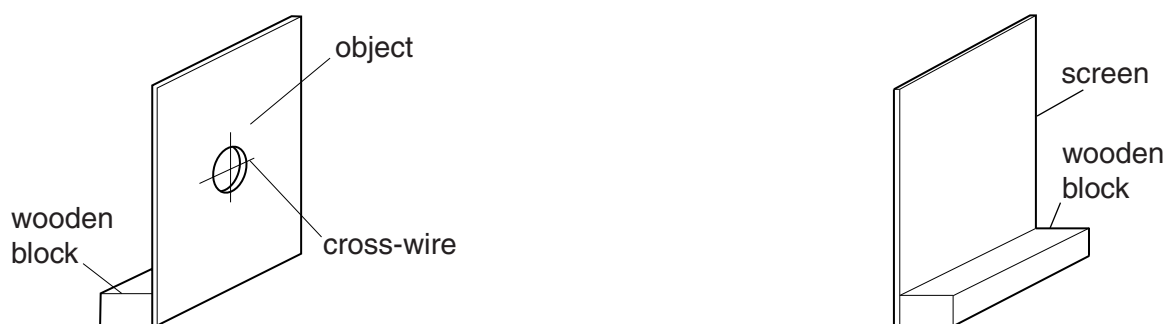

Fig. 4.1
4. The object and the screen should be supported so that they can stand perpendicular to the bench. This could be done by attaching blocks of wood to the base of the object and screen, as shown in Fig. 4.1.